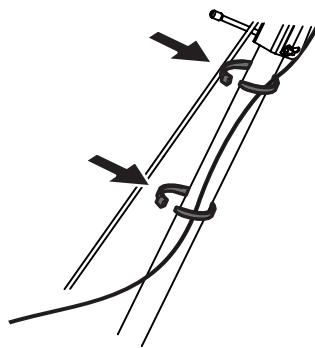

Figure 4
2. Route the wire up the handle shaft and secure with cable ties just above the lower handle adjust bracket and below the upper handle adjust bracket. See Figure 4.